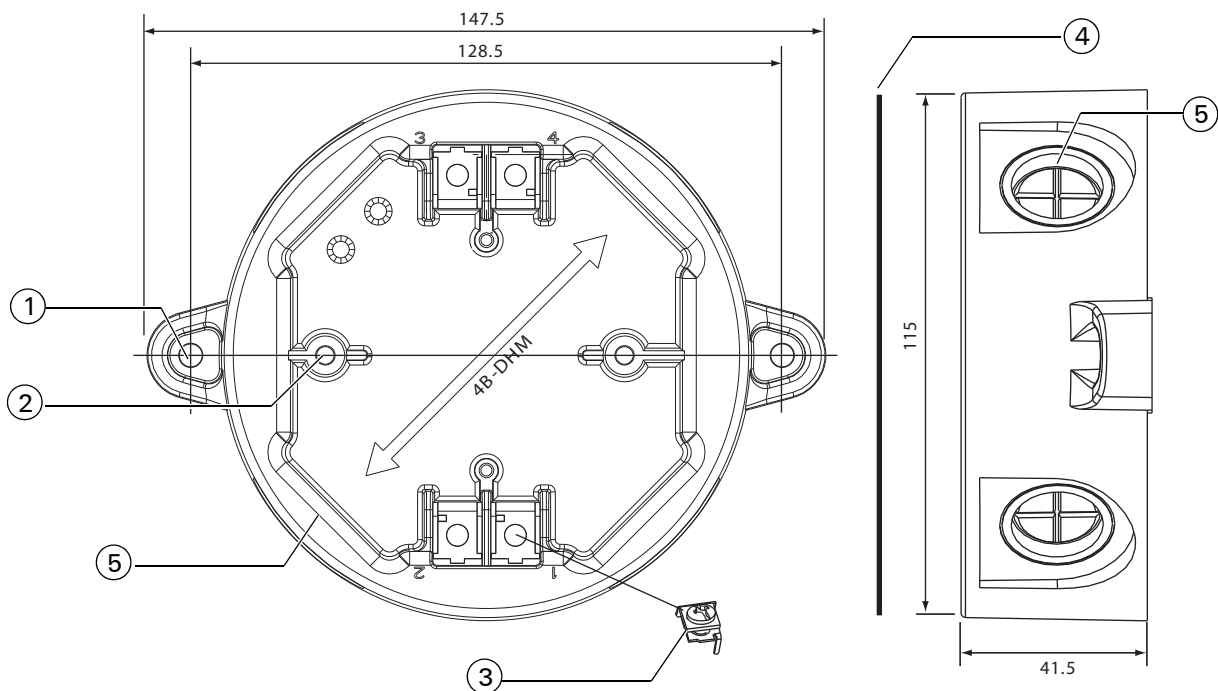

Fig. 9: 4B-DHM deckhead mounting
The Deckhead Mounting is designed to be used in particularly damp or dirty environments. The kit is illustrated in Figure 9.
- 1 Note that the item numbers in this procedure refer to Figure 9. Remove gland/conduit knockouts (Item 5) as appropriate. For the larger 25 mm diameter, a hole cutter is required.
- 4 Fix the 4B-DHM to the surface by screwing through the fixing holes - item 1 in Figure 9.
- 5 Remove the backing from the sealing gasket (Item 4 in Figure 9). Carefully stick the gasket to the front surface of the 4B-DHM. Fit the gasket round the rim, so that it will form a seal with the detector base.